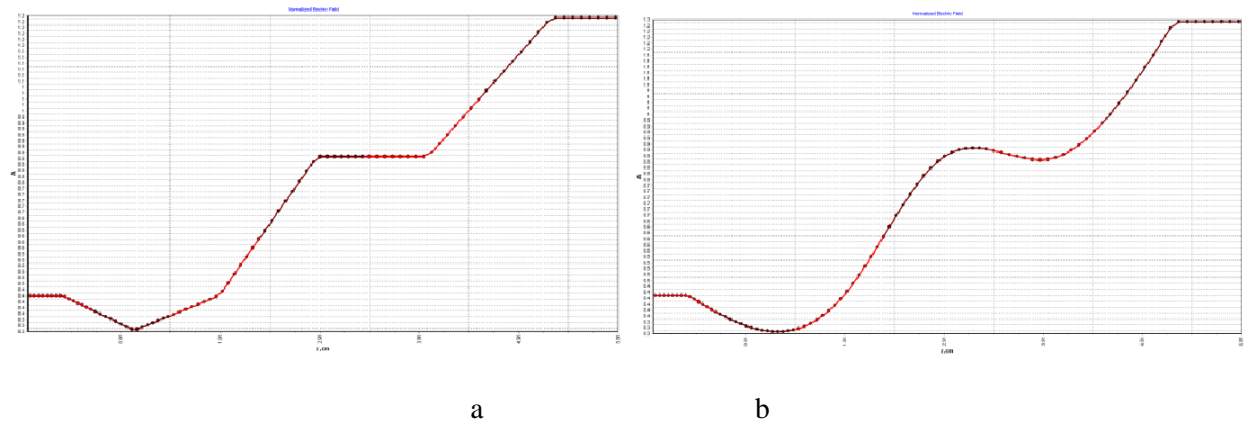

Fig. 4.2 Interpolation types (a-linear; b-cubic)
- Interpolation. Relative phase speed and value of accelerating electrical field are defined in the centers of cells. Then these values are interpolated for other mesh cells (Number of mesh points). In Figure 4.2 are presented 2 kinds of interpolations (linear and cubic). It is recommended to use linear interpolation to